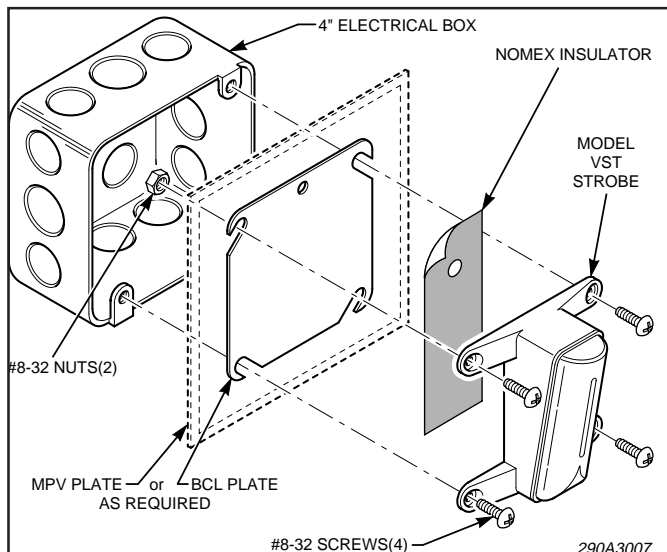

Figure 1. MPV or BCL Adapter Plate Mounting.
1. MPV, SFL Adapter Plates (see figure 1).